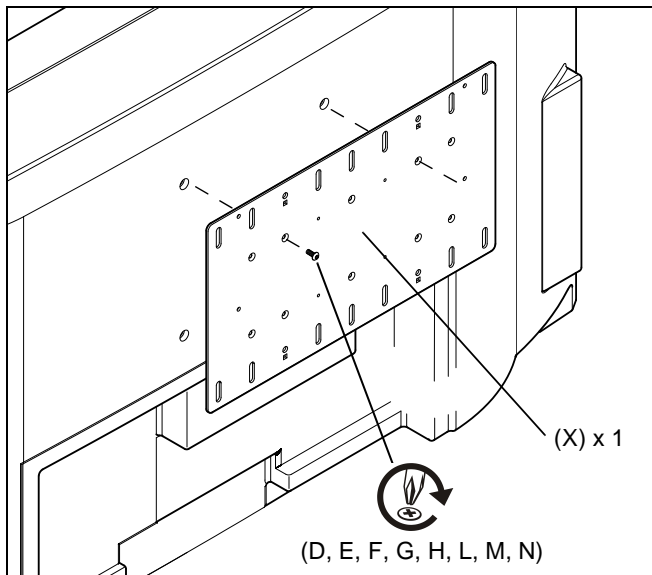

Figure 9
2. Attach Interface Bracket (X) to display using appropriate screws (D, E, F, G, H, L, M, N). (See Figure 9)
**NOTE:** If the display has a recessed mounting surface, spacers (K or O) between the display and Interface Bracket (X) may be required.